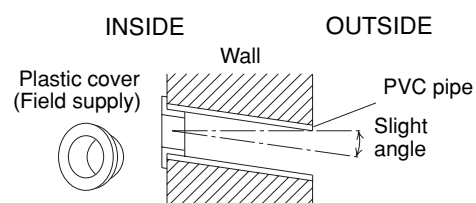

Fig. 3-24
- (6) Place the plastic cover over the end of the pipe (for indoor side only) and insert in the wall. (Fig. 3-24)